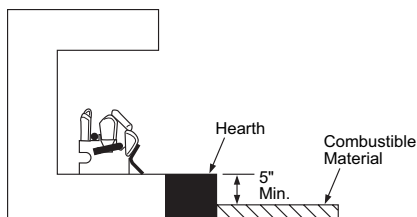

Figure 9 - Minimum Fireplace Clearances Above Combustible Flooring
- B. If combustible materials are less than 14" to fireplace, you must install appliance at least 5" above combustible flooring (see Figure 9).